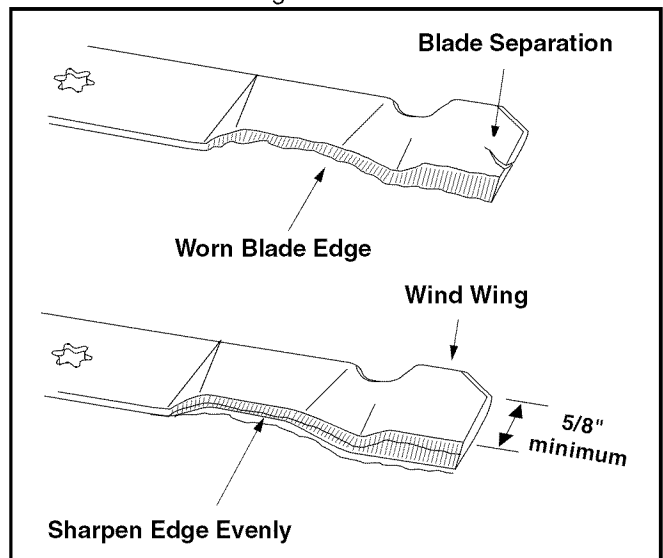

Figure 18
- To properly sharpen the cutting blades, remove equal amounts of metal from both ends of the blades along the cutting edges, parallel to the trailing edge, at a 25° to 30° angle. See Figure 18.
IMPORTANT: If the cutting edge of the blade has already been sharpened to within 5/8" of the wind wing radius, or if any metal separation is present, replace the blades with new ones. See Figure 18.